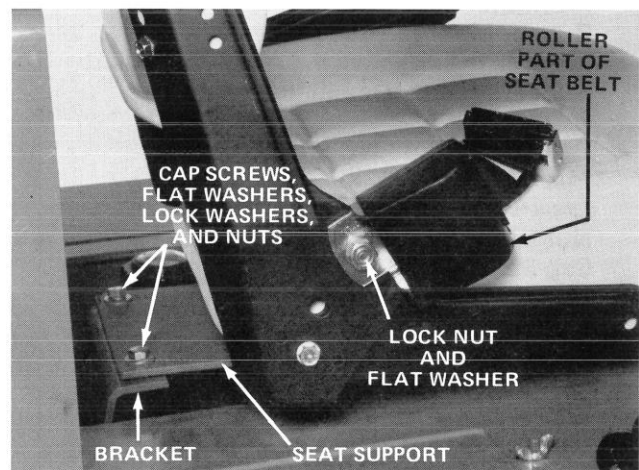

Figure 5
1. Install roller part of seat belt against right side of seat back-rest with cap screw, flat washer, and lock nut (Fig. 5). Tighten lock nut to 35 ft-lb.
2. Secure seat support on seat support bracket with two cap screws, flat washers, lock washers, and nuts (Fig. 5). Tighten nuts to 23 ft-lb.